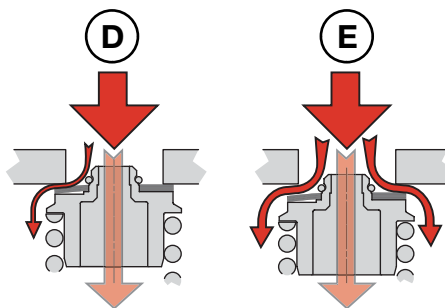
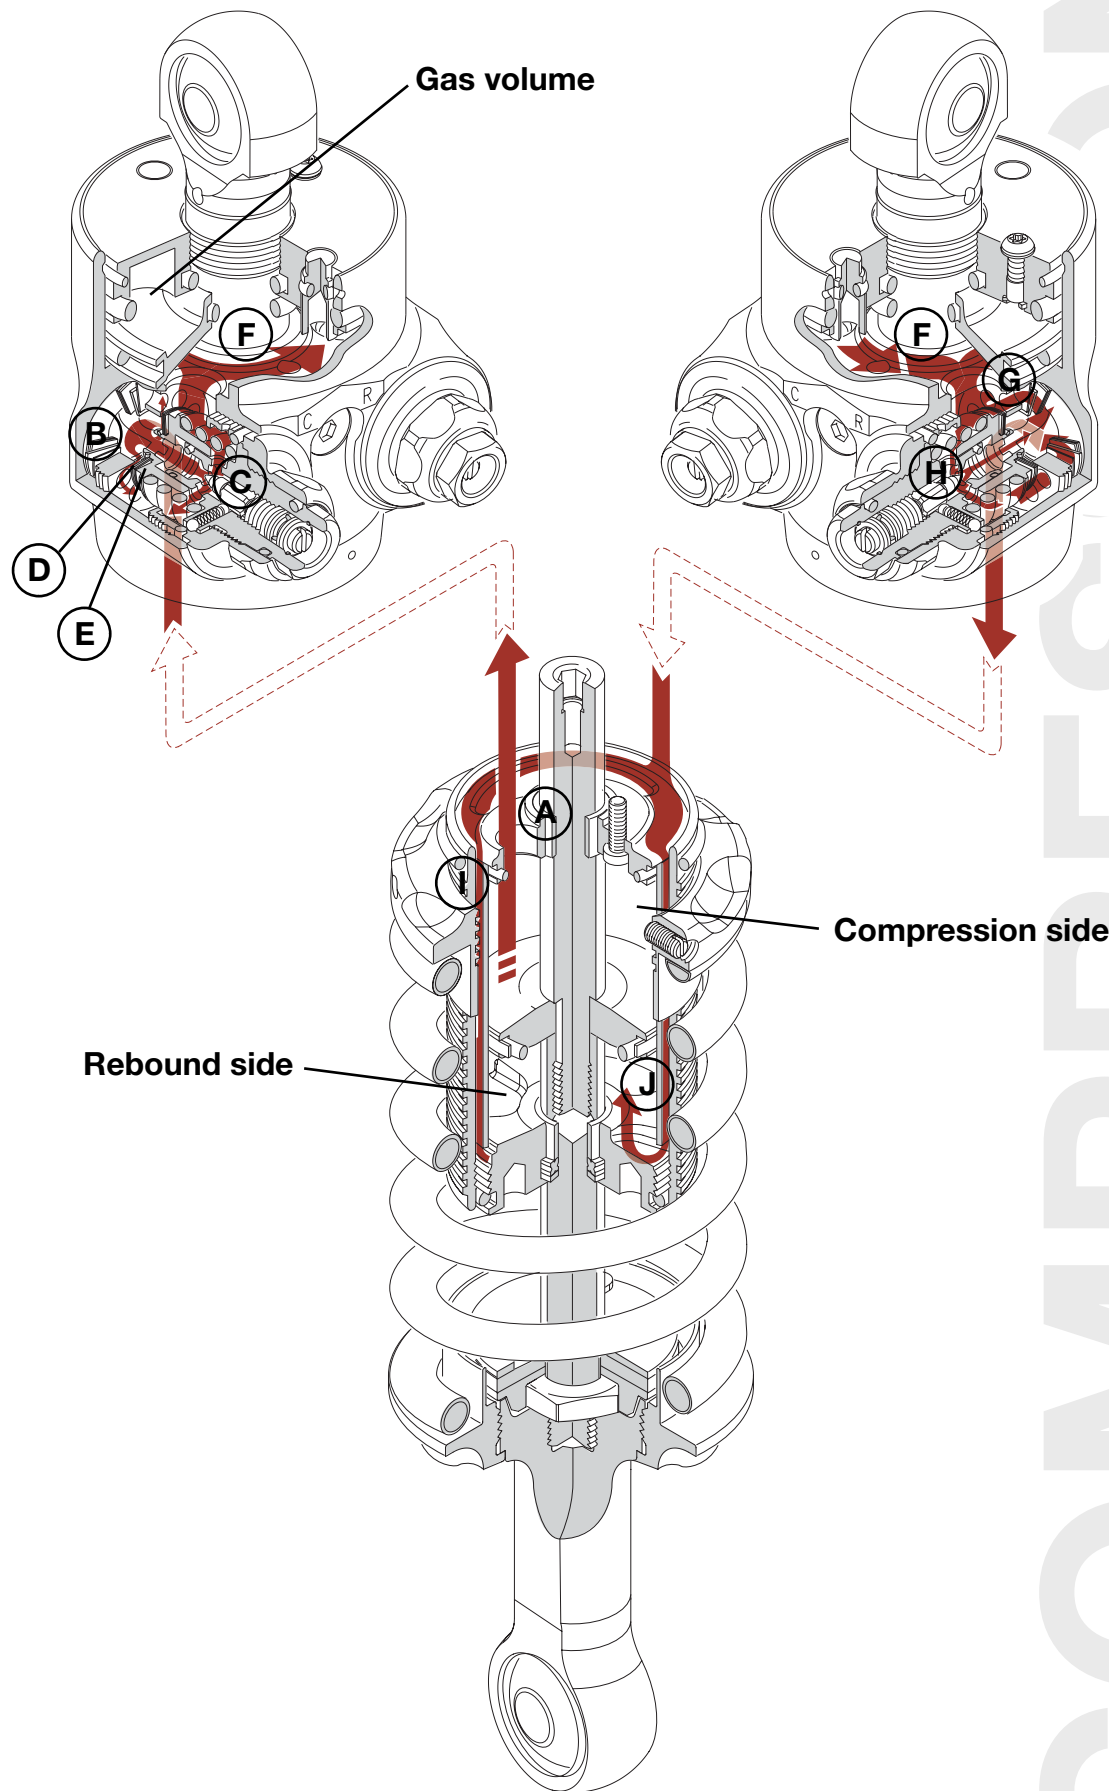

Figure 3.2 Poppet valve
Figure 3.3 Flow circuit during compression cycle.
1. The oil will reach the compression valves by passing through the port of the separating plate (Figure 3.3-A) extending into the cylinder head and leading the oil into a chamber below the compression valves (Figure 3.3-B). Because of the small restriction of this port, the pressure in this chamber will be very much the same as the compression side of the cylinder tube. The piston velocity and how the valves are set determine the pressure in the chamber. The pressure will help to close the check valve in this chamber.
- a) In the initial part of a compression stroke, when the velocity of the piston is low, the oil will pass through the adjustable low speed compression valve. In this bleed valve, the restriction takes place in the passage (Figure 3.3-C) between the needle seat (integrated to the needle housing) and the needle. As long as the piston is moving and the bleed valve is not fully closed, some oil will always flow through the bleed valve. If the bleed valve is fully closed, this passage will be blocked.
- b) As the velocity increases, the shim stack on the nose of the poppet valve will start to open and oil can pass between the shim stack and the poppet valve seat (Figure 3.2-D and 3.3-D). The stack configuration will
- c) As the piston velocity increases further, the internal pressure rises. At a certain velocity the movement of the piston creates a pressure difference across the main piston that is equal to the predetermined pressure required to open the poppet valve. The oil is now free to flow between the poppet valve and the seat (Figure 3.2-E and Figure 3.3-E). Due to the oil flow, the nose shims will follow the poppet valve up from the seat.
3. The oil has now reached the low-pressure zone at the gas reservoir (Figure 3.3-F). This volume is in direct contact with the separating piston, separating the oil from the nitrogen gas. Here the pressure is always equal to the set gas pressure. As the TTX is a through rod damper, there will be no fluid displacement by the piston rod. However, a gas volume is still needed to reduce changes of the static internal pressure due to volume changes caused by temperature variations. The rising temperature of the damper will increase the volume of the oil. Also the damper body will expand as the temperature increases, but not all to the same extent.
4. Now the oil will flow through the compression check valve (Figure 3.3-G) positioned at the rebound valves. However, as long as the low speed rebound bleed valve isn't fully closed, some oil will flow through this valve backwards (Figure 3.3-H).
5. From here the oil flows between the two tubes (Figure 3.3-I). The oil re-enters the main tube on the rebound side through ports placed between the end cap and the inner tube (Figure 3.3-J). The compression flow circuit is completed.